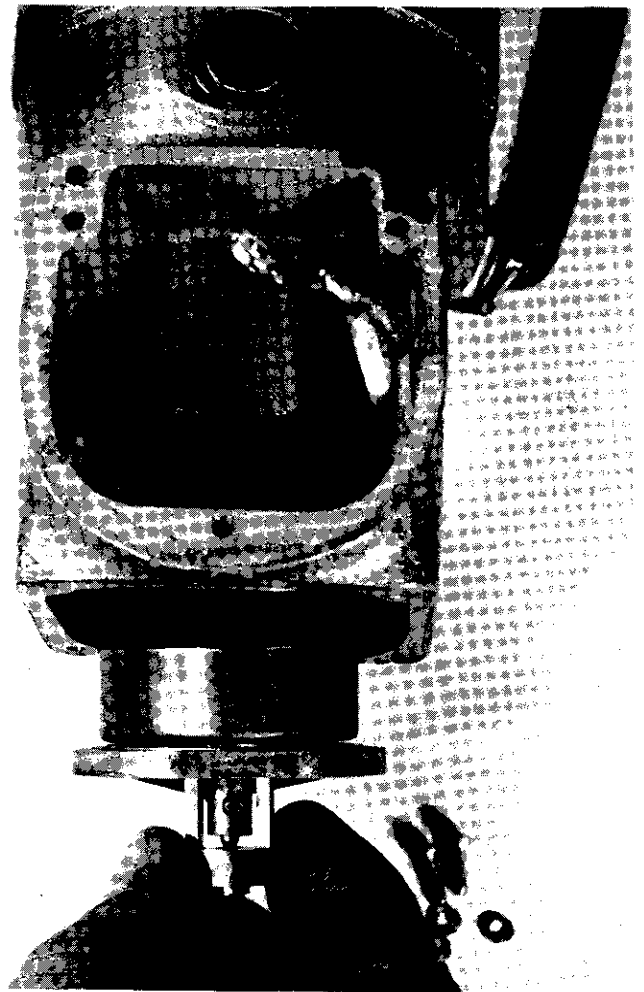

FIG. 11 – Removing Spider and Cup Assembly
- (h) Remove the three small screws which hold the spider (26W03) in the governor housing. Remove the spider. (Figure 11)